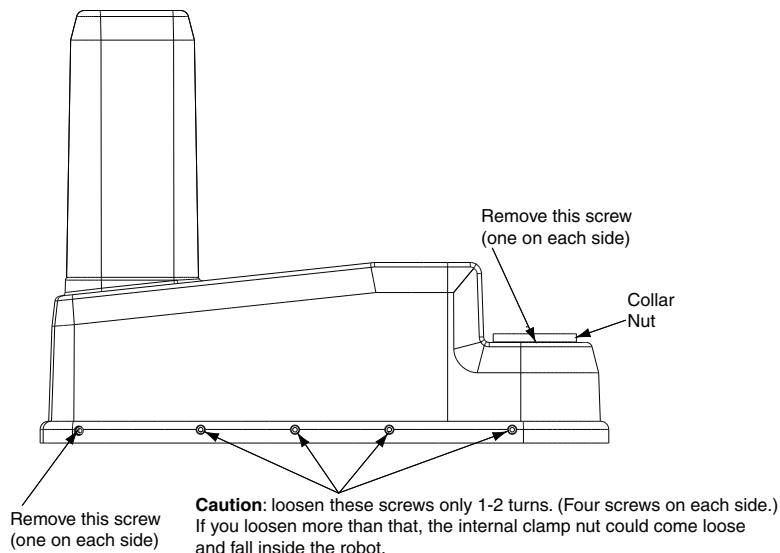

Figure 8-8. Cover Removal Instructions
3. Unscrew the collar nut on the top of the outer link. See Figure 8-8.
6. For the 8 screws along the side of the cover (4 on each side; see Figure 8-8), loosen only 1 to 2 turns, just enough to loosen the inside clamp nuts. You do not want to completely remove the screws. See the label on the side of the outer link cover.